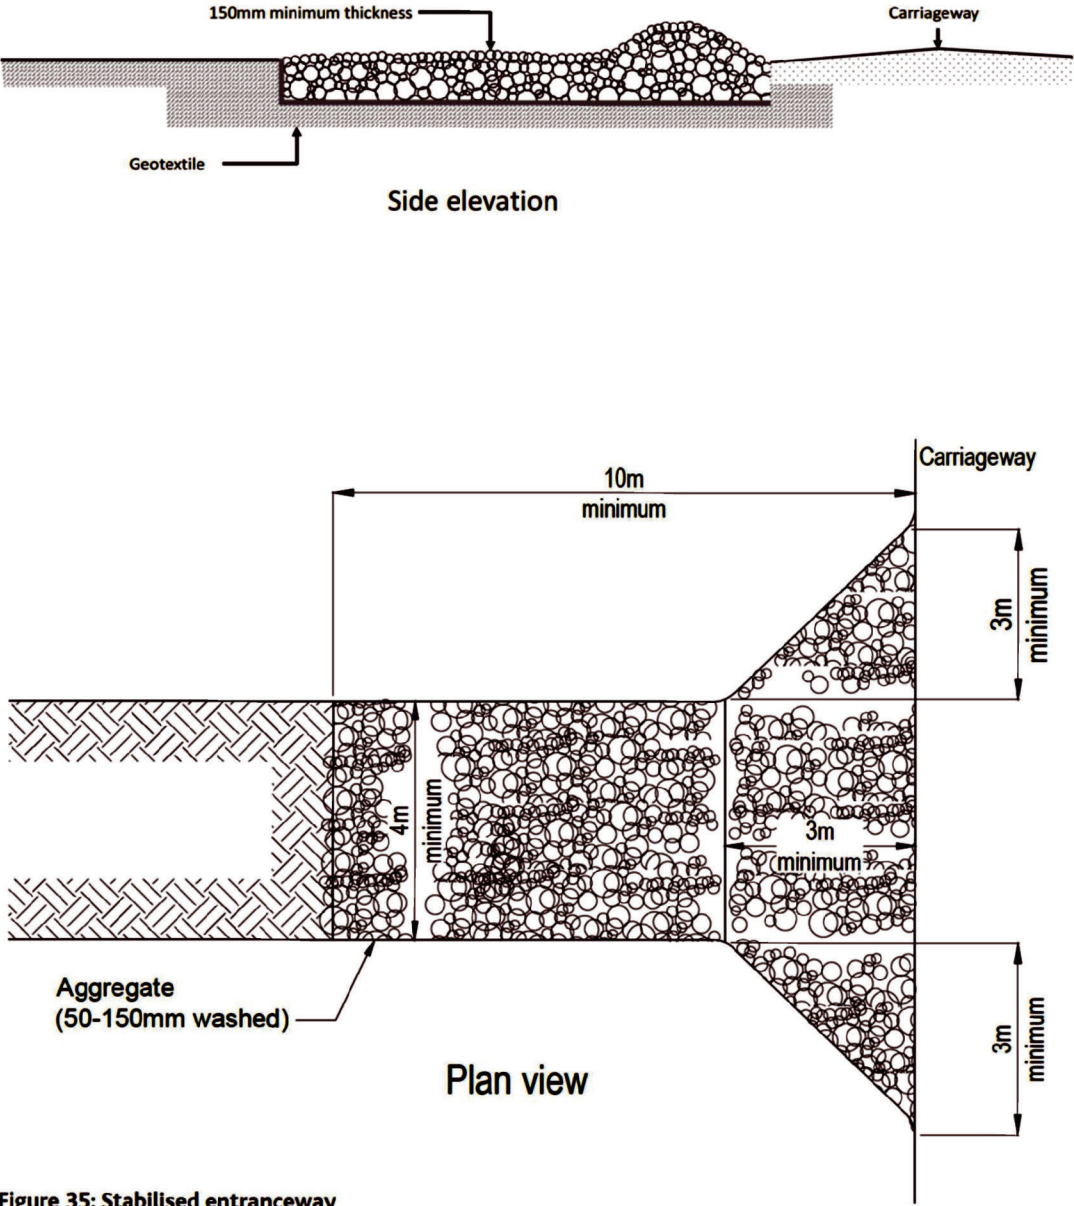

Figure 35: Stabilised entranceway
- USE THE SPECIFICATIONS IN TABLE 8 AND FIGURE 35 TO DESIGN STABILISED ENTRANCEWAYS. ACHIEVING THE SPECIFICATIONS DETAILED BELOW ON A SMALL SITE MAY BE DIFFICULT. FOR SMALL SITES’ GUIDANCE REFER TO SECTION G2.0.
- PLACE AGGREGATE FROM THE CONSTRUCTION SITE BOUNDARY EXTENDING FOR AT LEAST 10 M ACCORDING TO THE SPECIFICATIONS (FIGURE 35) AND CONTOUR THE AGGREGATE TO SUIT THE ENTRANCE POINT (NOTE: CONTOURING CAN INCLUDE A HIGHPOINT TO ACT AS A BARRIER TO WATER FLOWING OUT OF THE SITE.)